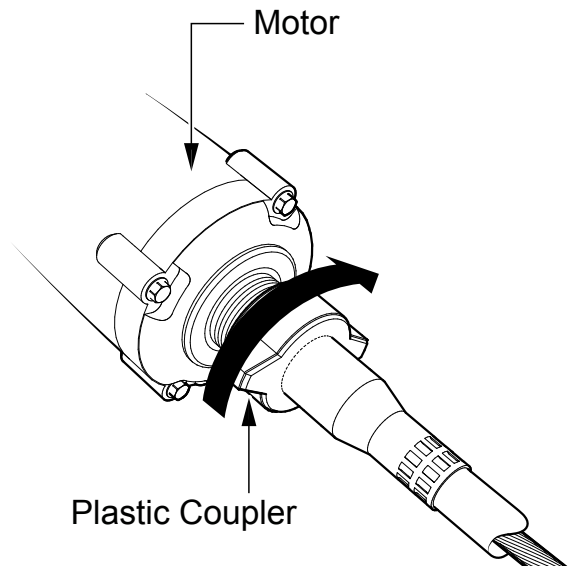

Figure 9. Loosening Shaft Coupler
- Turn the plastic coupler holding the shaft to the motor clockwise until completely loose (Figure 9). If the coupler does not come off easily, place motor in a vise and hit the coupler with a rubber mallet to loosen.